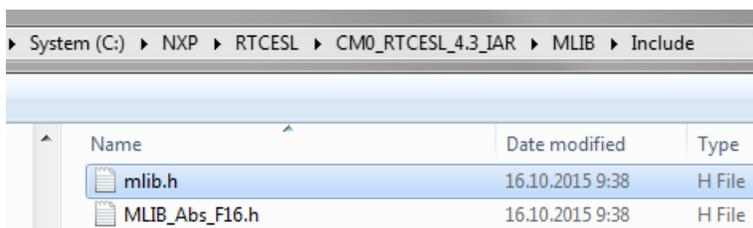

**Figure 1-43. New variable**
6. In the main dialog, click OK. See Figure 1-43.